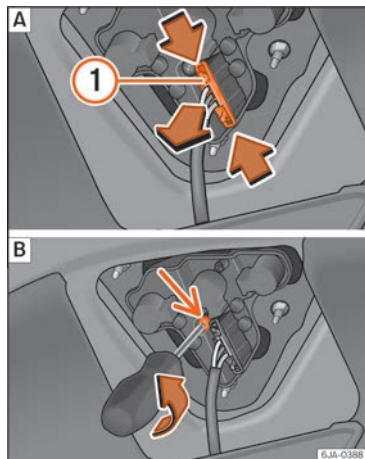

Fig. 105 Remove the bulb holder.
- Access the lights by disconnecting the connector ① »» Fig. 105 [A] and unscrewing
the bulb holder »» Fig. 105 [B]. Take care not to lose the bulb holder retaining screw.